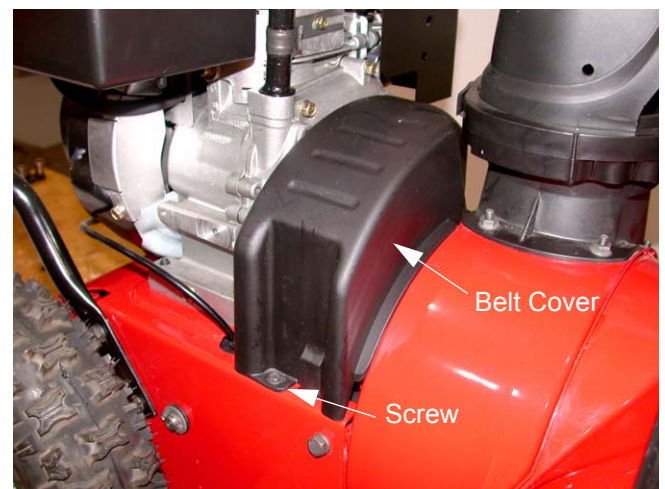

Figure 6.1
- 6.1. Remove the screw securing the belt cover to the right side of the housing. See Figure 6.1.